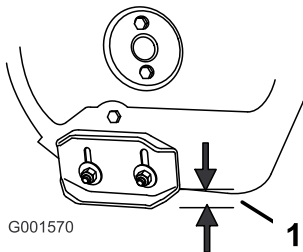

Figure 41
2. Loosen the nuts that secure both skids to the auger sides until the skids slide up and down easily (Figure 41).